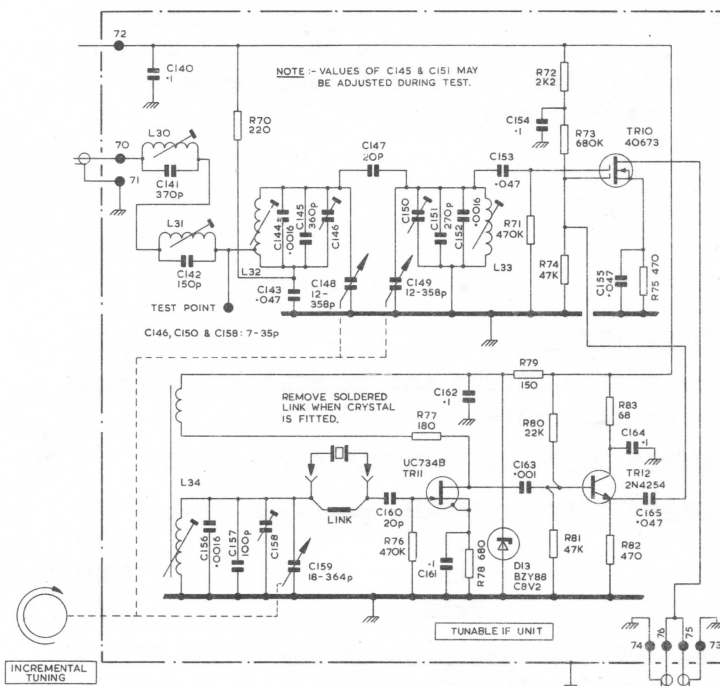

Fig. 2. Tunable IF Unit as used on early 1830 Series Receivers.
3. A circuit of the Tunable IF Unit used on early receivers is shown in Fig. 2.